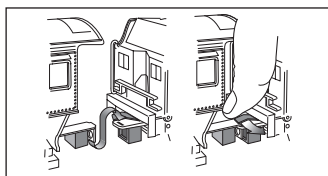

Figure 1. Drawbar connection
2. **Place your locomotive on Lionel or Lionel-compatible 0-54 or larger track and connect the drawbar between the locomotive and tender as illustrated in Figure 1.**
1. **Place your locomotive on Lionel or Lionel-compatible 0-54 or larger track and connect the drawbar between the locomotive and tender as illustrated in Figure 1.**
2. **Power your locomotive at 12-18 volts with your alternating current (AC) transformer.**